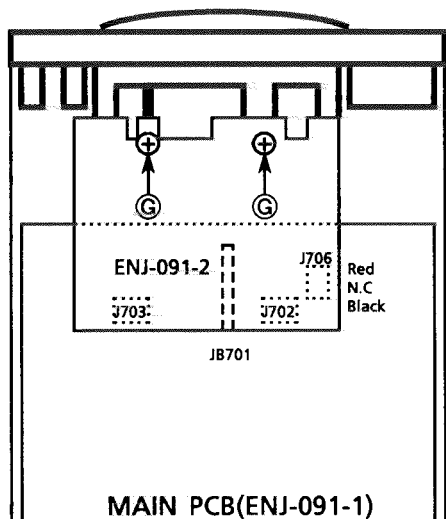

Fig.5 Top view
2. Remove the 2 screws (G). (Fig.5)
3. Remove the 2 screws ①.(Fig.5)
4. Disconnect the JB701,J702,J703 and J706. (Fig.5)